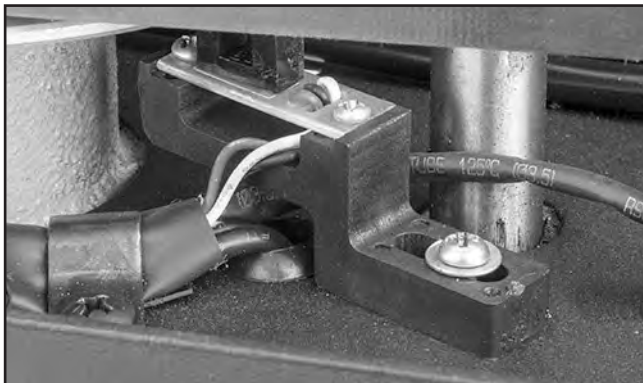

Figure 49. Worklight and laser cords fed into headstock.
3. Open belt cover and identify which cord is connected to laser by lightly tugging cords fed into headstock (see **Figure 49**).